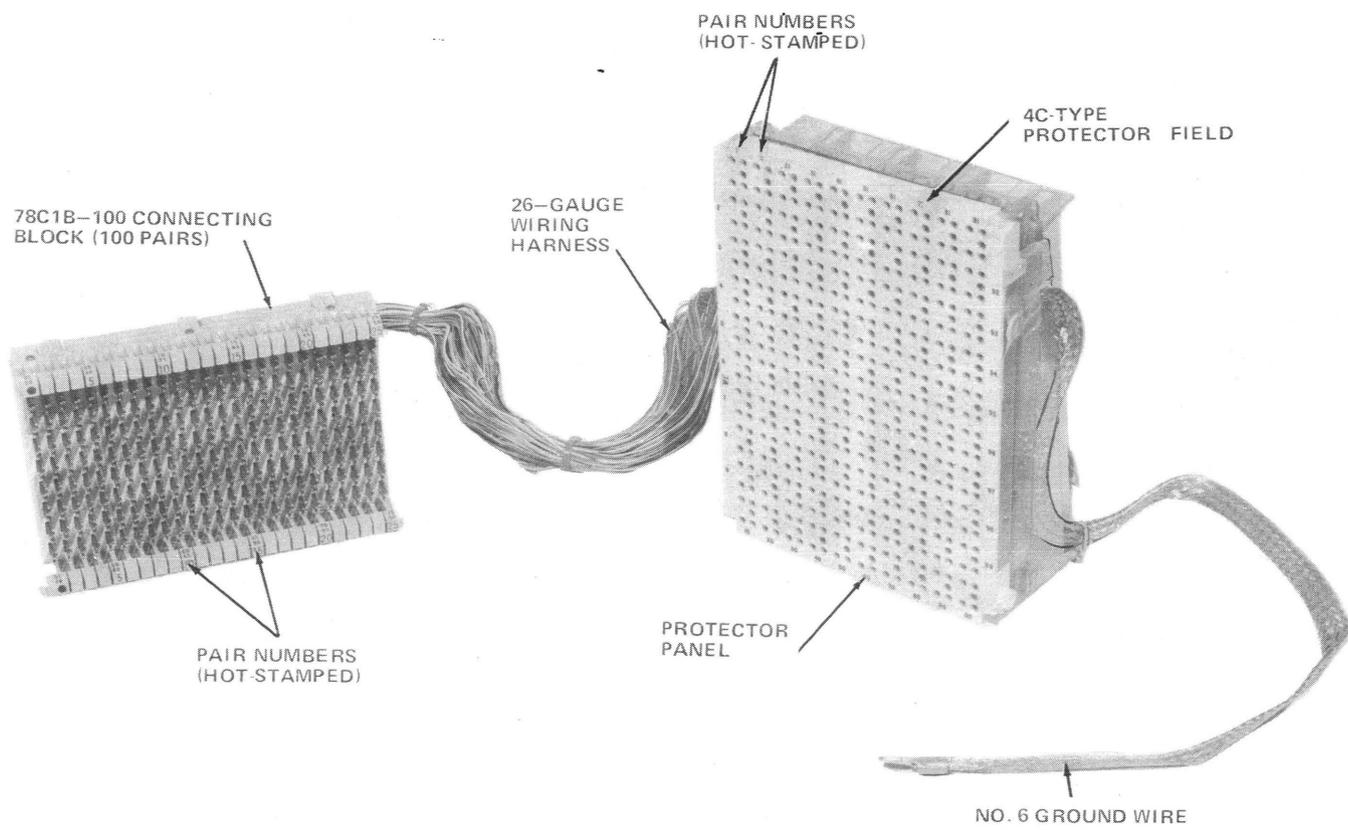

Fig. 1—Front View of 307A1-100 Connector
2.01 Refer to Table A for the 307-type connector codes, rating, and associated connecting blocks. The 307A1-100 (Fig. 1 and 2) has a protector panel interconnected to one 100-pair, 78C-type connecting block. The connecting block is stenciled 01-100 and represents any 100-pair complement in an